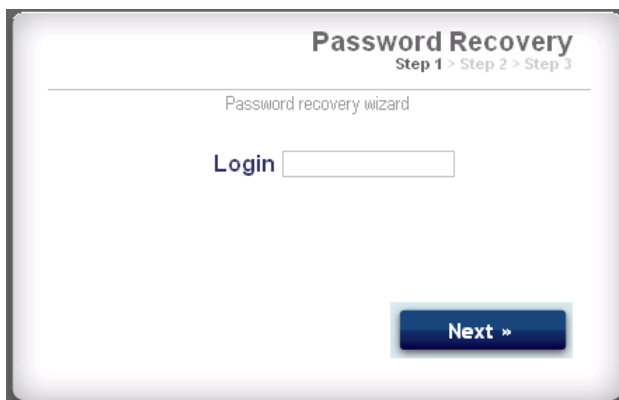

FIG. 34. Password Recovery Step 1
2. See FIG. 34. The system will prompt you for your login name. Type in the name you entered in step 5 on page 17, then click Next.